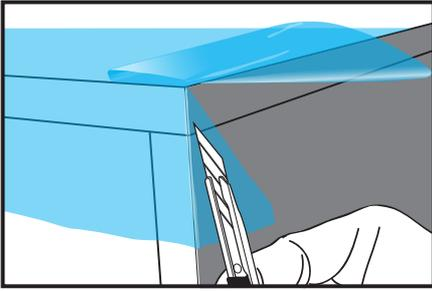

Figure 06
- › Cut any excess material, leaving only approximately 1 mm to 2 mm (0.04 in. - 0.08 in.), (FIG. 06) then cover the adjacent edge.